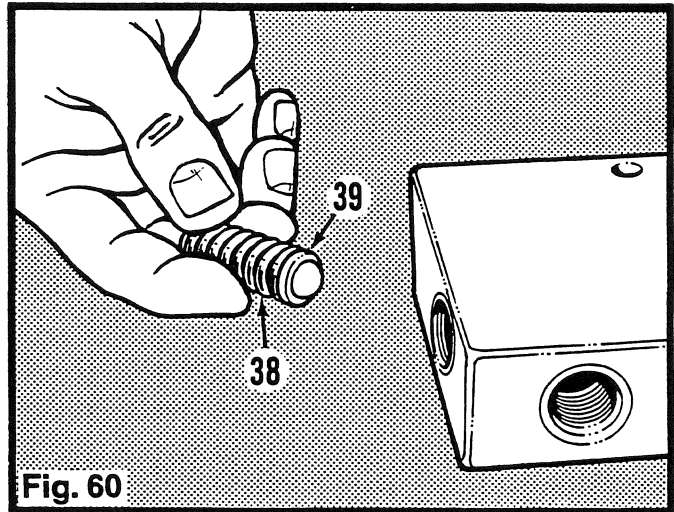

Fig. 60
9. Install the poppet (39) and spring (38). (Fig. 60)